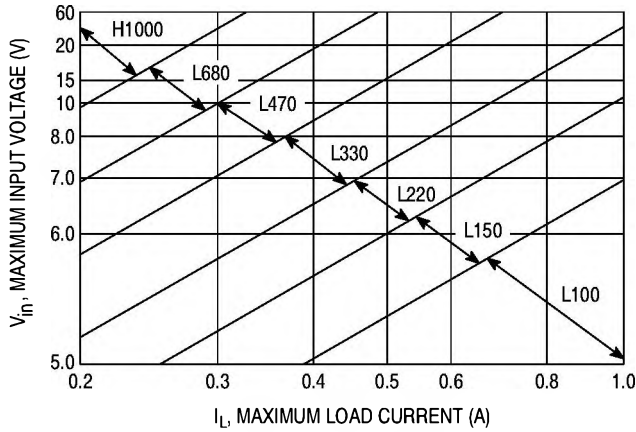

Figure 17. LM2575-3.3
4. Inductor Selection ($L1$) A. According to the required working conditions, select the correct inductor value using the selection guide from Figures 17 to 21. B. From the appropriate inductor selection guide, identify the inductance region intersected by the Maximum Input Voltage line and the Maximum Load Current line. Each region is identified by an inductance value and an inductor code. C. Select an appropriate inductor from the several different manufacturers part numbers listed in Table 1 or Table 2. When using Table 2 for selecting the right inductor the designer must realize that the inductor current rating must be higher than the maximum peak current flowing through the inductor. This maximum peak current can be calculated as follows: $I_{p(max)} = I_{Load(max)} + \frac{(V_{in} - V_{out}) t_{on}}{2L}$ where t_{on} is the "on" time of the power switch and $t_{on} = \frac{V_{out}}{V_{in}} \times \frac{1}{f_{osc}}$ For additional information about the inductor, see the inductor section in the "External Components" section of this data sheet.	4. Inductor Selection ($L1$) A. Use the inductor selection guide shown in Figures 17 to 21. B. From the selection guide, the inductance area intersected by the 20 V line and 0.8 A line is L330. C. Inductor value required is 330 μ H. From the Table 1 or Table 2, choose an inductor from any of the listed manufacturers.
To simplify the inductor selection process, an inductor selection guide for the LM2575 regulator was added to this data sheet (Figures 17 through 21). This guide assumes that the regulator is operating in the continuous mode, and selects an inductor that will allow a peak-to-peak inductor ripple current to be a certain percentage of the maximum design load current. This percentage is allowed to change as different design load currents are selected. For light loads (less than approximately 200 mA) it may be desirable to operate the regulator in the discontinuous mode, because the inductor value and size can be kept relatively low. Consequently, the percentage of inductor peak-to-peak current increases. This discontinuous mode of operation is perfectly acceptable for this type of switching converter. Any buck regulator will be forced to enter discontinuous mode if the load current is light enough.